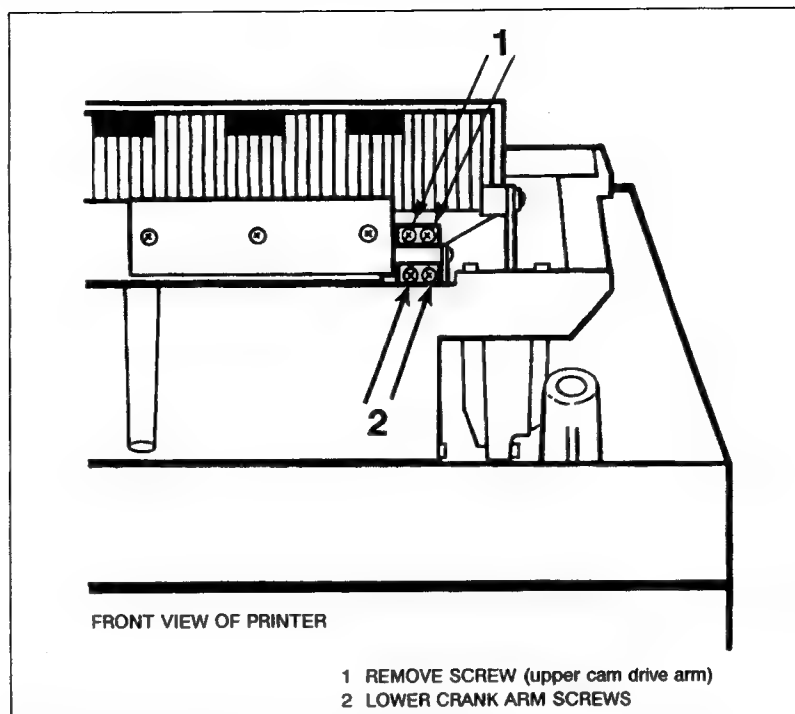

Figure 6-12. Print Mechanism (Front View)
- f. Remove the two screws/3mm socketed or pozidrive screws from the upper cam drive arm of the print mechanism (see Figure 6-12).
- e. Remove the two screws and flat plate which secure the lower crank arm to the print mechanism (see Figure 6-12).